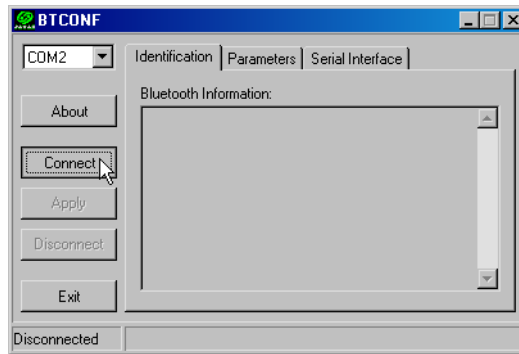

Figure 2-38. Select Communication Port and Click Connect
- From the drop-down list in the upper left corner, select the computer serial port used for communication (Figure 2-38).